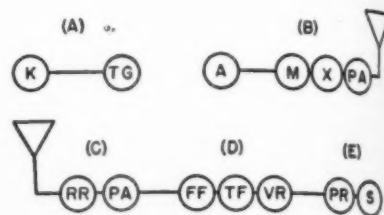

Fig. 4.
In Fig. 4 (C, D, E) the radio receiver (RR) receives signals, demodulates control tone, amplified through power stage (PA). Usually part of standard police type receiver. Special tone only is let through frequency filter (FF) and time filter (TF) to trigger tube (VR). The plate circuit of (VR) operates power relay (PR) which closes circuit of siren motor.
But one of the most interesting of photoelectric applications is the control of products whose final merit is determined by the color of the light that the material reflects or emits. The heating and tempering of steel, the selection of various grades of paper, the roasting of coffee; and, yes, even the baking of cake or bread are all processes rendered more complete and more exact because of electronic control. A simplified drawing of one form of color analyzer is shown in Fig. 2. A means for selection of certain objects is shown in Fig. 3. The use of a lens to produce a nearly parallel beam of light is shown in Fig. 4. The use of a parabolic mirror for the same purpose of parallel light beam production, is shown in Fig. 5.